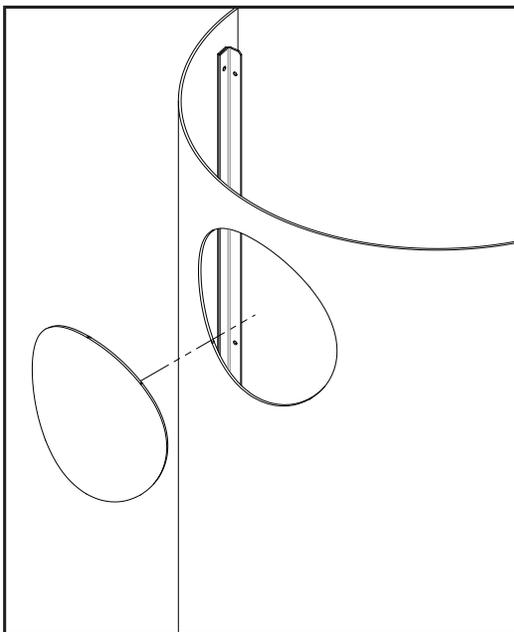

Figure 68: Rear Chassis Punchout
12. Remove the punchout from the rear chassis using a sizeable hammer (see Figure 68). Place a cloth down around the perimeter to prevent damage to the chassis in case you accidentally strike the painted surface.